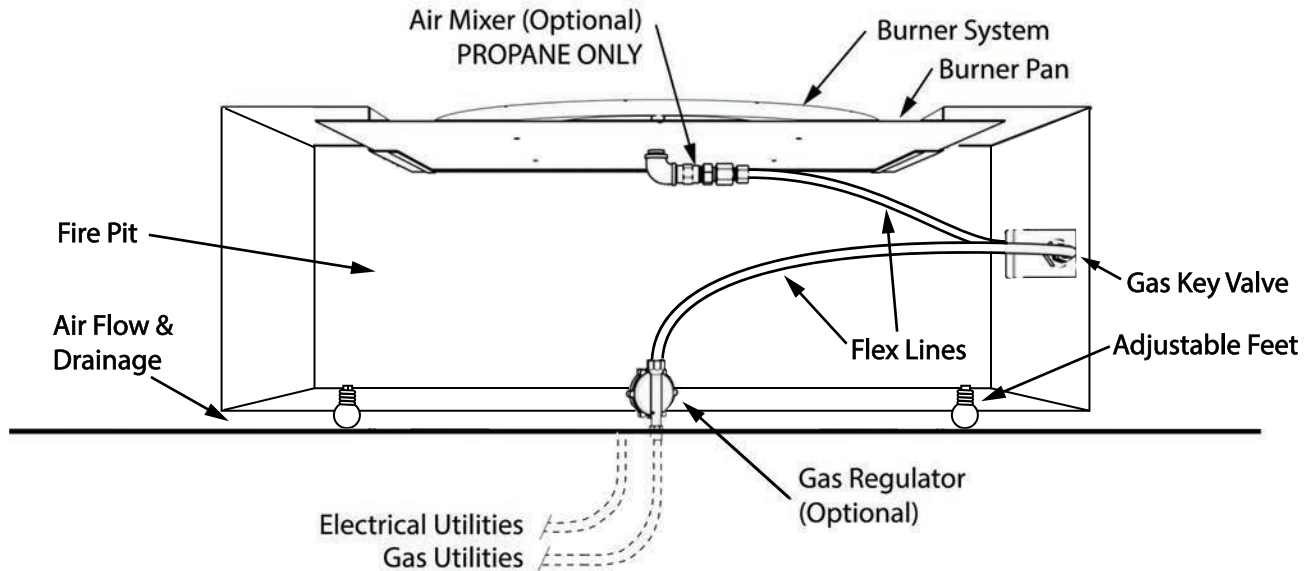

FIG. 6-1
- ⚠ **PROPANE ONLY:** Add optional **Air Mixer** to system as illustrated in Fig. 6-1.